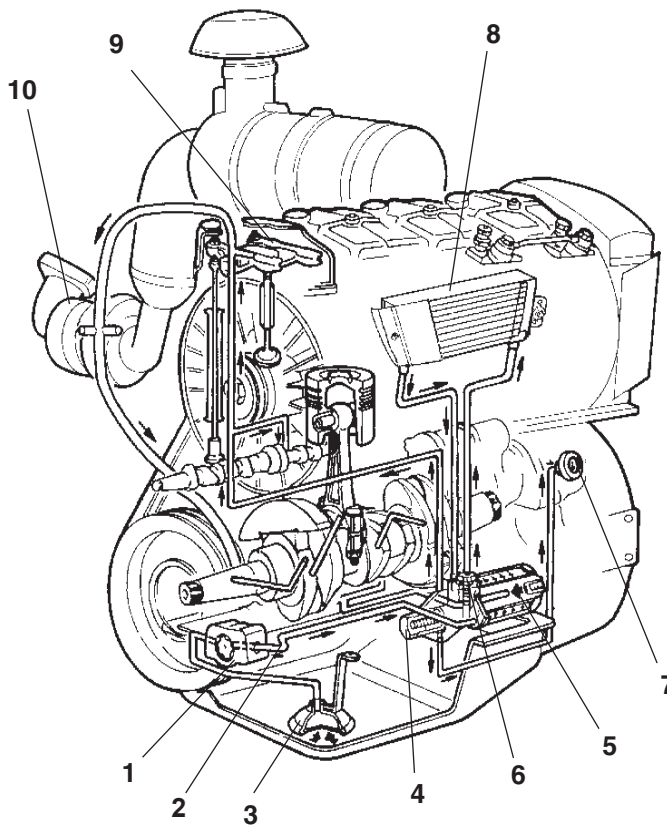

Fig. 2.1 - Abb. 2.1
2.2 CIRCUITI DI LUBRIFICAZIONE (FIG. 2.1)
2.2 CIRCUIT DE GRAISSAGE (FIG. 2.1)
2.2 LUBRICATION CIRCUIT (FIG.2.1)
2.2 MOTORSCHMIERUNGS- KREISLAUF (ABB.2.1)
2.2 CIRCUITO DE LUBRICACION (FIG. 2.1)